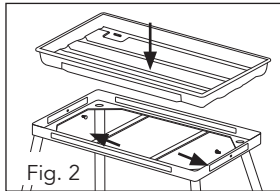

Fig. 2
2. Insert the two trough fixture screws (19) through the square holes at either end of the base and place the trough (3) in the base frame (12) (Fig. 2).